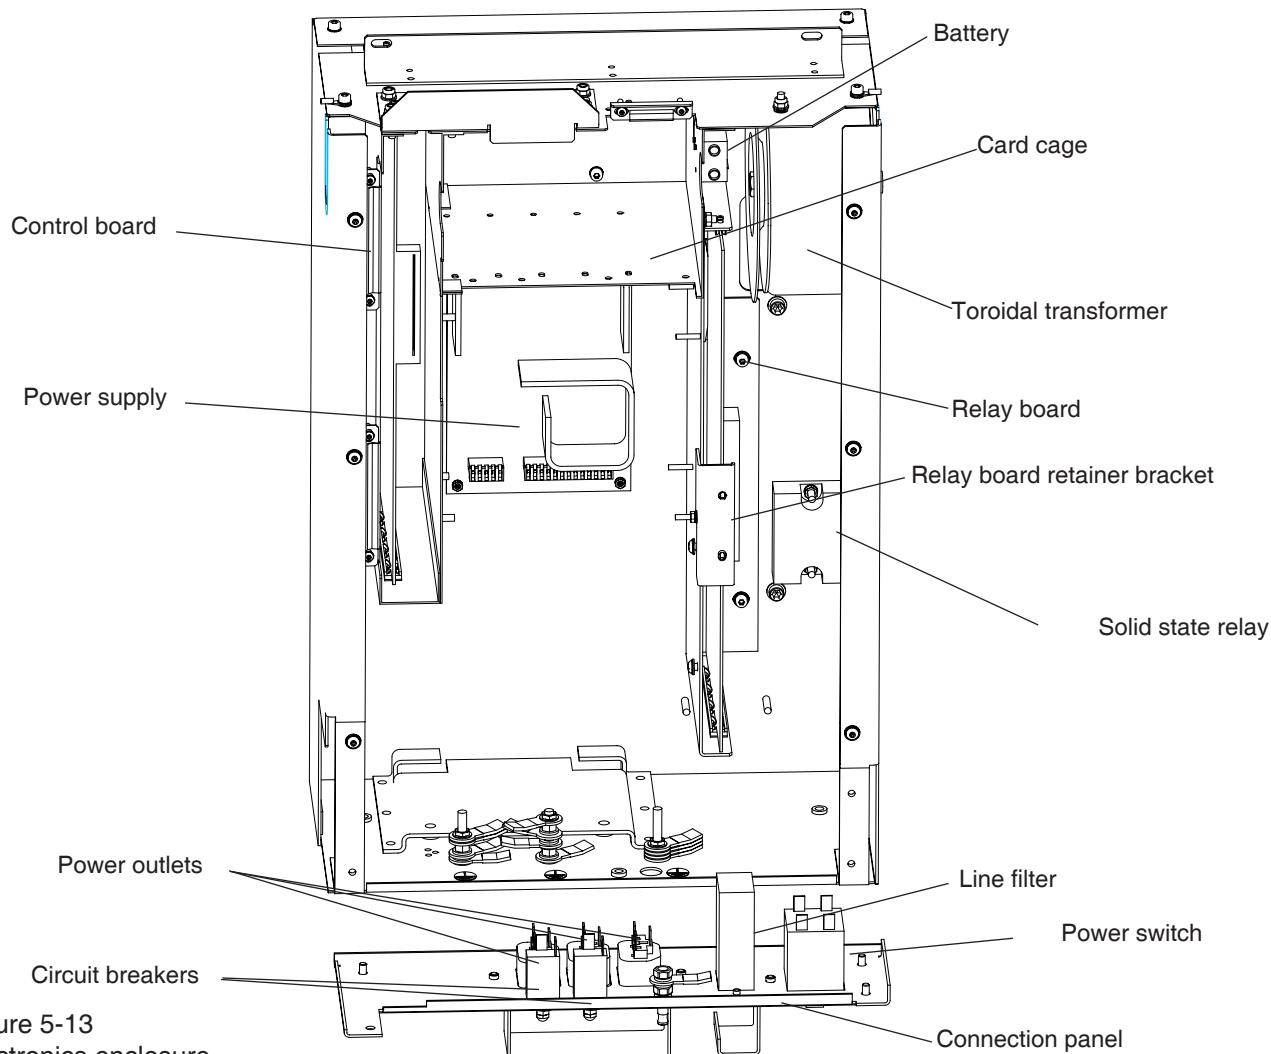

Figure 5-13
5.7.3 Controller Components (Figure 5-13)